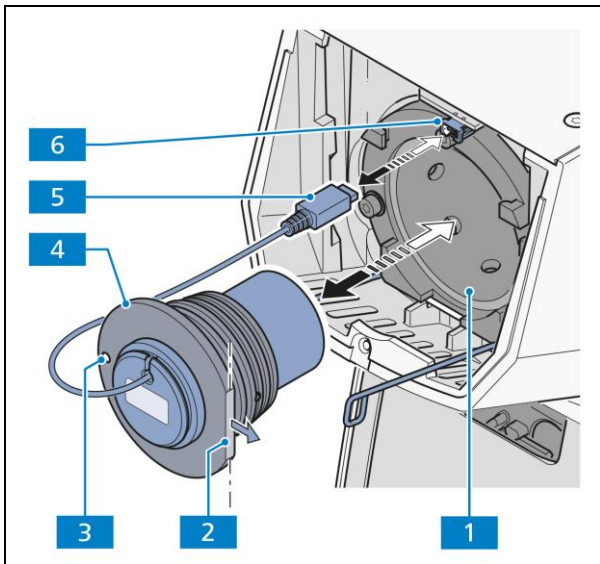

Fig. 3-23 Changing the LED illuminator
- Remove the LED illuminator plug (Fig. 3-23/5) from the connector of the stand (Fig. 3-23/6).
- Pull the old LED illuminator with adapter (Fig. 3-23/4) out of the holding tube (Fig. 3-23/1).
- Insert the new LED illuminator with adapter (Fig. 3-23/4) into the holding tube (Fig. 3-23/1) up to the stop.
- Position the new LED illuminator with the pinhole (Fig. 3-23/3) at the left, or with the adapter front edge (Fig. 3-23/2) aligned to the right.
- Plug the lamp plug (Fig. 3-23/5) into the connector of the stand (Fig. 3-23/6).